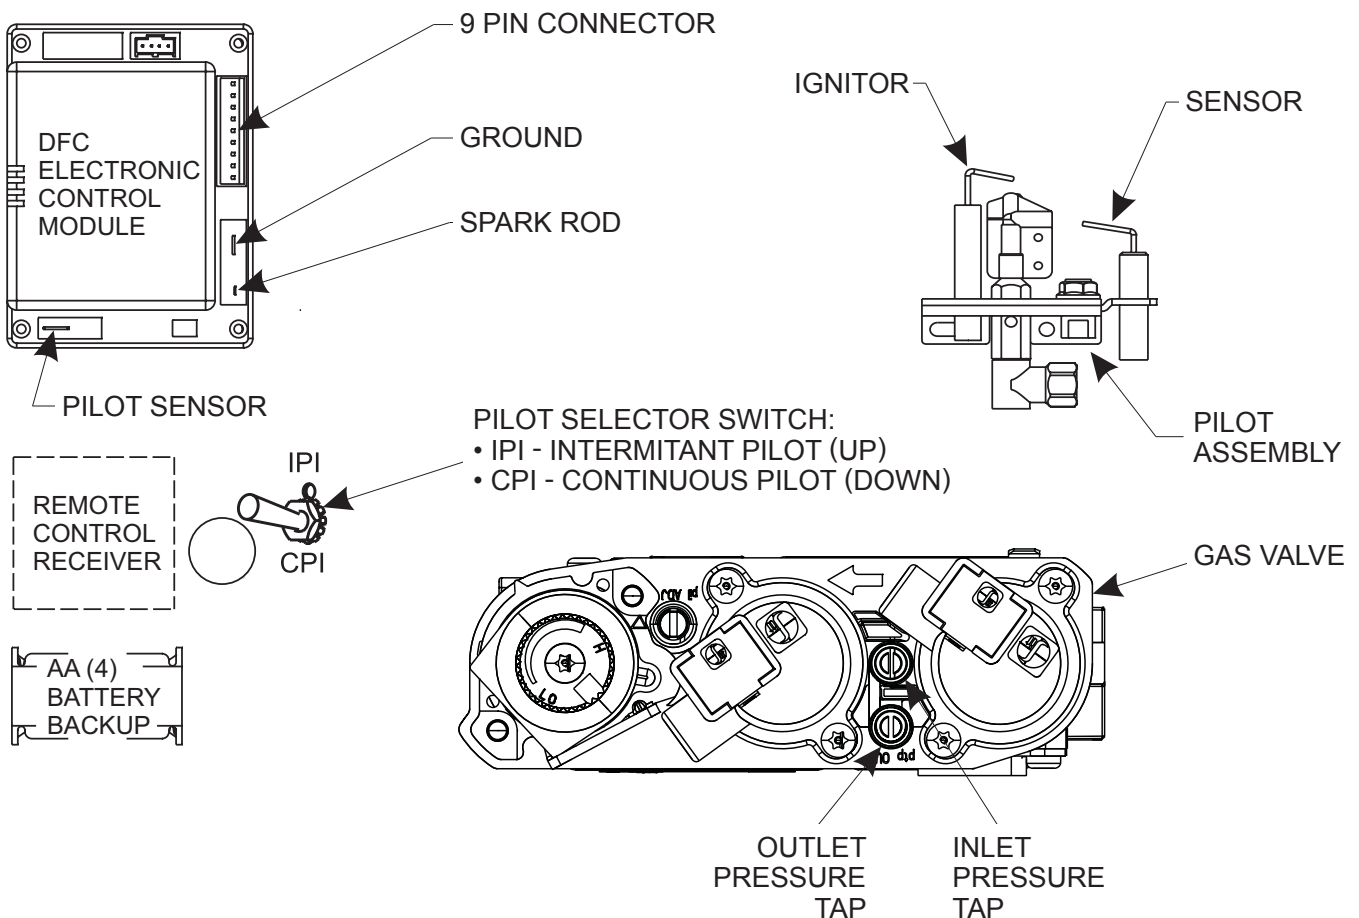

Figure 31
NOTE: A small toggle switch is located on a bracket that is used to switch from IPI (upward position) to the CPI (downward position). See Figure 31.
3. The gas valve has inlet and outlet pressure taps as shown in Figure 31. Refer to pages 18 and 19 for gas pressure requirements.
NOTE: The gas control has a manual HI/LO flame adjustment knob (regulator) that allows you to increase or decrease the height of the burner flame. See Figure 31. Rotate the HI/LO knob counterclockwise to "HI" to increase the flame height, and clockwise to "LO" to decrease the flame height.